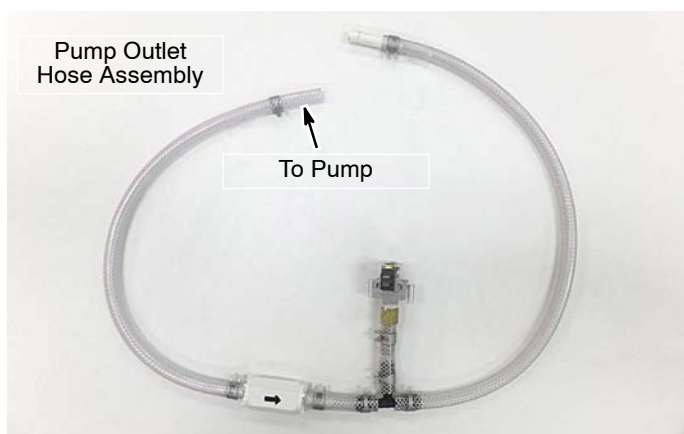

Fig. 21
7. Install the pump outlet hose assembly as described in following steps (Figure 21).